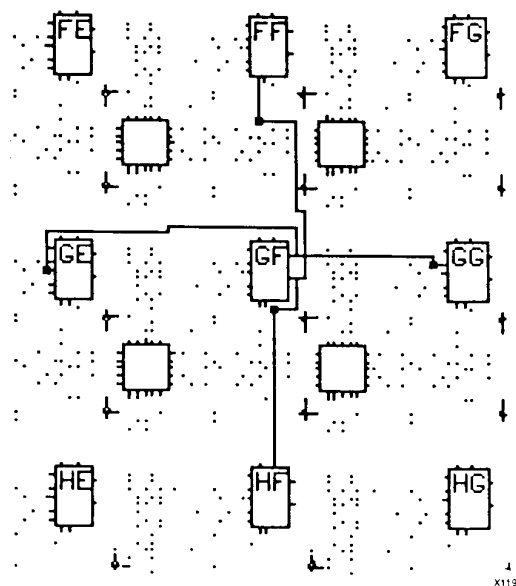
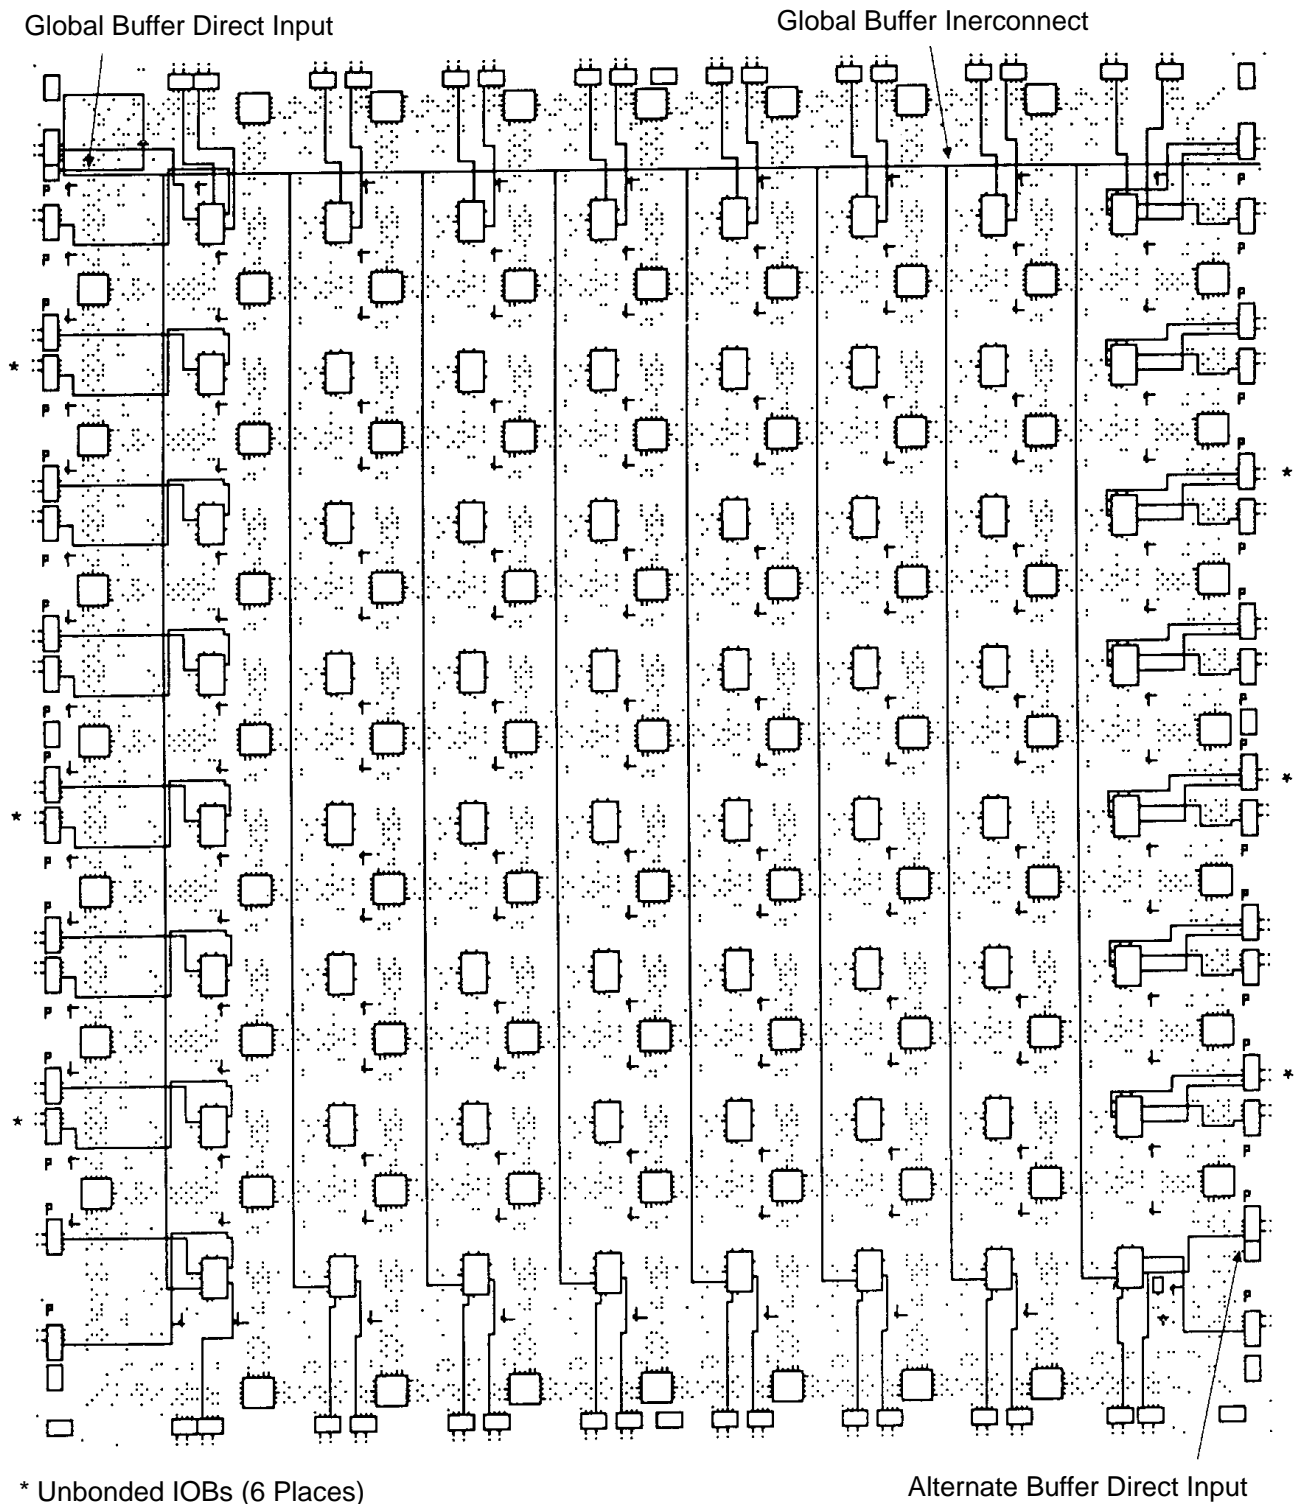

Figure 12: CLB X and Y Outputs.
Figure 13: XC3020A Die-Edge IOBs. The XC3020A die-edge IOBs are provided with direct access to adjacent CLBs.
Direct interconnect, shown in Figure 12, provides the most efficient implementation of networks between adjacent CLBs or I/O Blocks. Signals routed from block to block using the direct interconnect exhibit minimum interconnect propagation and use no general interconnect resources. For each CLB, the X output may be connected directly to the B input of the CLB immediately to its right and to the C input of the CLB to its left. The Y output can use direct interconnect to drive the D input of the block immediately above and the A input of the block below. Direct interconnect should be used to maximize the speed of high-performance portions of logic. Where logic blocks are adjacent to IOBs, direct connect is provided alternately to the IOB inputs (I) and outputs (O) on all four edges of the die. The right edge provides additional direct connects from CLB outputs to adjacent IOBs. Direct interconnections of IOBs with CLBs are shown in Figure 13.